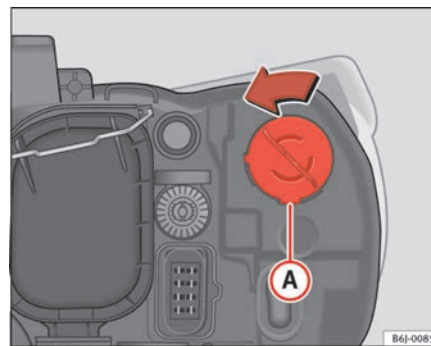

Fig. 134 Indicator light
- Rotate the bulb holder ⇒ fig. 134 **A** to the left and pull.